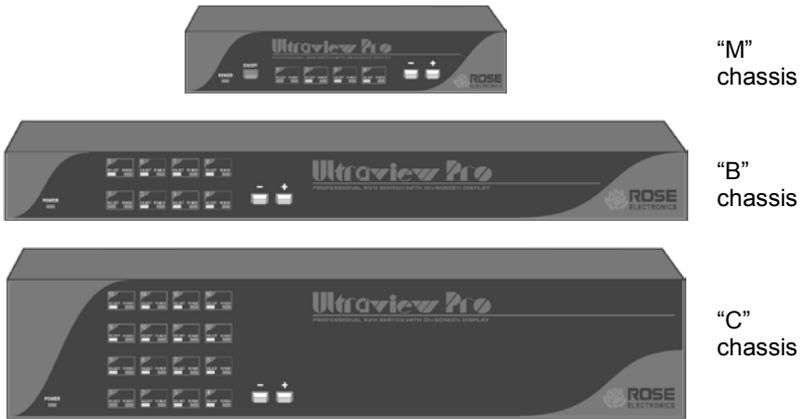

Figure 6. UltraView models
6. Using the up/down arrow keys, select (highlight) "Configure system" and press enter. The "Configure system" menu will display. (See Figure 6)